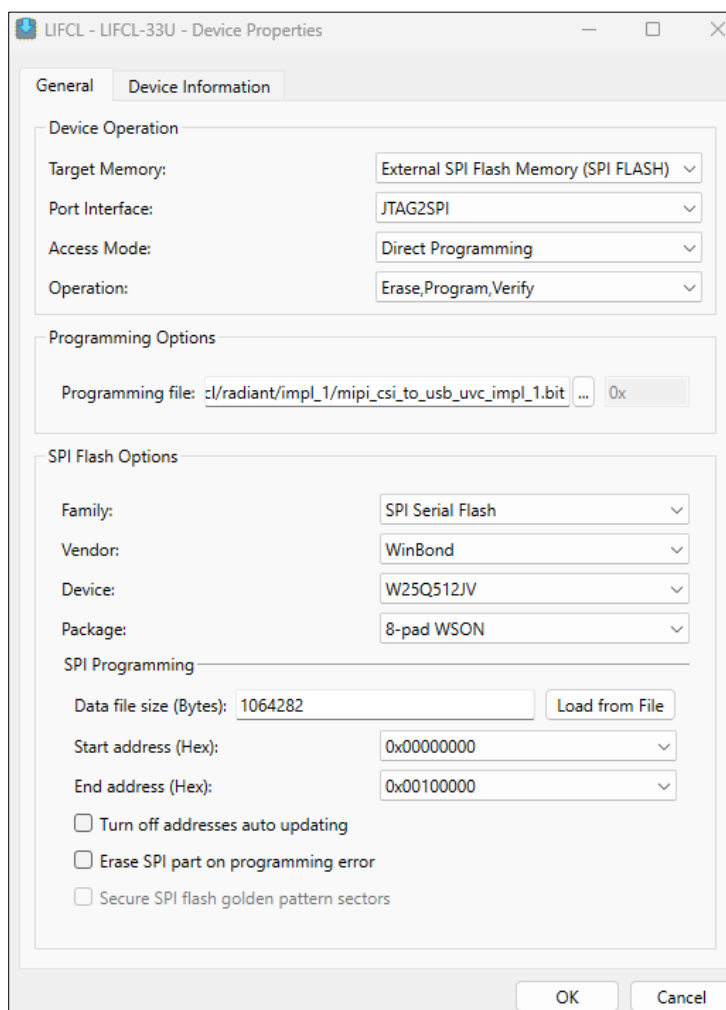

Figure 6.4. Device Properties Window for the CrossLinkU-NX SPI Flash Programming
- Select the settings, as shown in Figure 6.4.